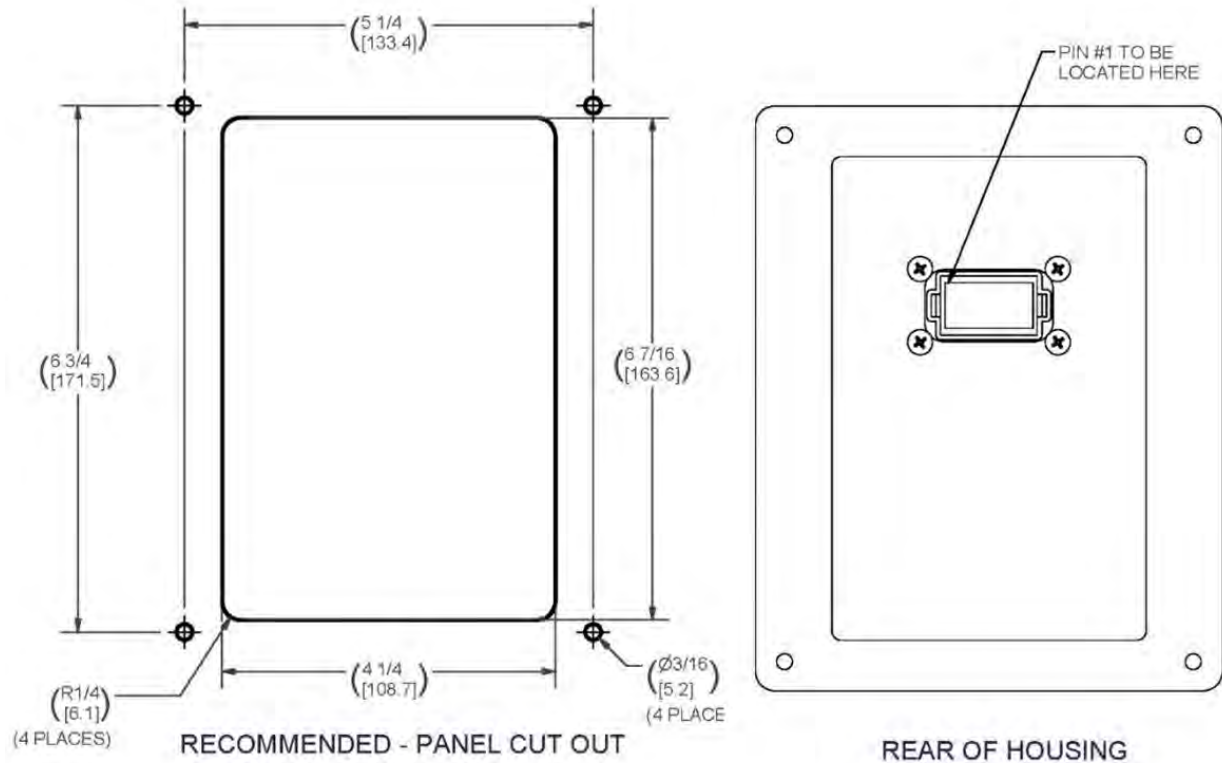

Figure 5-24 PMRC Panel Cutout Dimensions
1. Cut the panel according to the dimensions shown in Figure 5-24.